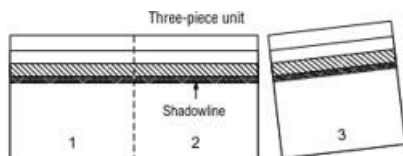

Figure 12: Separate to make 3 cap shingles
1) fastened with nails as shown and 2) hand-sealed with two 6mm wide beads of Viking pitched roof sealant applied from the middle of the shingle’s raised overlay on the top piece and extending approximately 100mm along the sides of the headlap along a line 19mm from each side edge of the shingle’s headlap as shown in figure 12. Immediately align and apply the next overlying shingle, gently pressing tab sides into adhesive. Only one side of the double thickness tab is laminated together; to secure the other side, after folding the shingle over the ridge and nailing into position, a 25mm spot of pitched roof sealant must be applied between the shingle layers as shown. Immediately align and apply the next overlying shingle, gently pressing tab sides into adhesive.